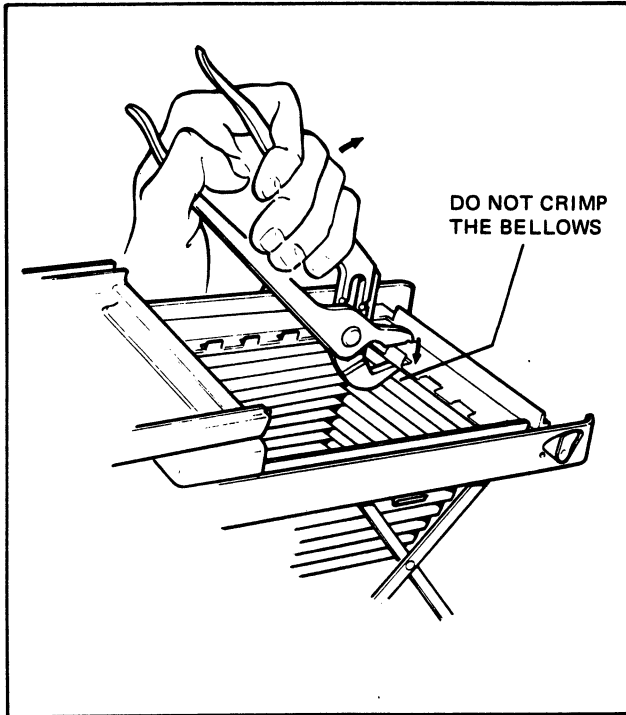

FIG. 5.13 INSTALLING THE BELLOWS
3. Secure the bellows to the body by carefully bending the tabs back using tool #169447 (Figure 5-13). Be sure you do not damage the bellows or the camera body.